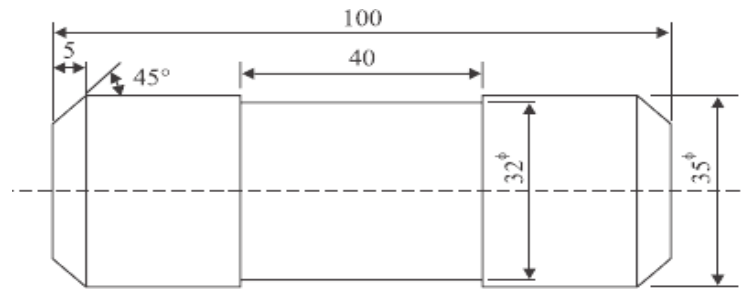

Fig. 5.23
**Example 2:** A mild steel bar 100 mm long and 38 mm in diameter is turned to 35 mm dia. and was again turned to a diameter of 32 mm over a length of 40 mm as shown in the Fig. 5.23. The bar was machined at both the ends to give a chamfer of  $45^\circ \times 5$  mm after facing. Calculate the machining time. Assume cutting speed of 60m/min and feed 0.4 mm/rev. The depth of cut is not to exceed 3 mm in any operation.